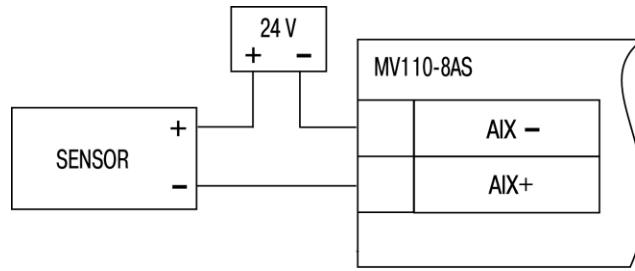

Fig. 4.2 Connection of 2-wire sensors
- The inputs should be wired in accordance with Fig. 4.2 – 4.7.